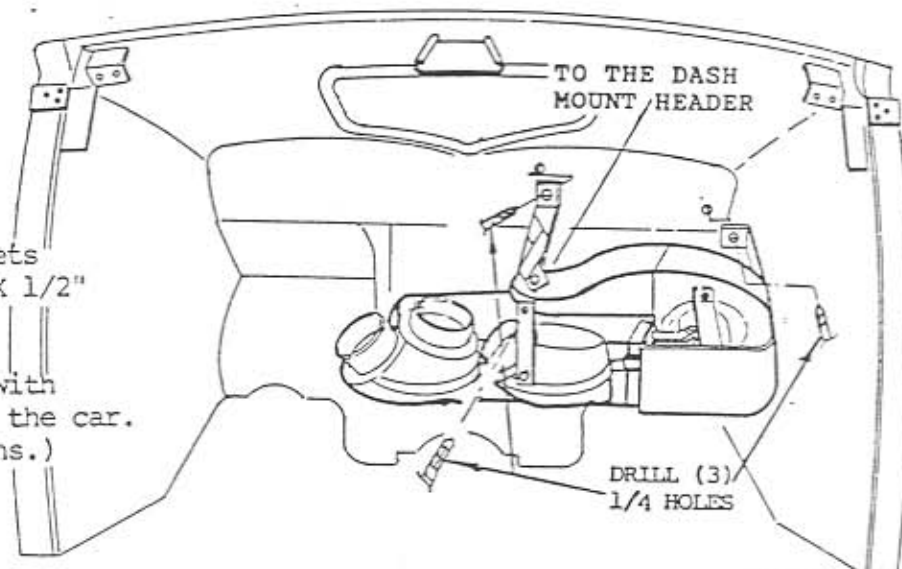

FIGURE 2
3. Brackets are furnished to mount the evaporator case using the cowl vent. (Attach to firewall as shown). Figure 2
4. The cowl vent handle will work if moved to the side. You can also convert to electric or cable operation. If you close off the cowl vent the unit will fit higher in the car. NOTE: To mount unit higher, simply determine the new location, mark and redrill the bracket to fit as described in Step 6. Figure 2
6. Have a helper hold the unit up as high as possible, with blower housing against passenger side kick panel. Locate the bracket on the top right side of the blower housing. Drill thru the 1/4" hole in the bracket to mark the firewall. Check to see if the location you marked looks ok and will clear obstructions on both sides of the firewall. If so, drill 1/4" hole in the firewall. Attach the evaporator to the firewall by the blower motor bracket with a 1/4 X 20 X 1/2" bolt and nut. Using the rear evaporator bracket as a guide mark and drill thru the 1/4" hole in the bracket. Attach this bracket to the firewall with a 1/4 X 20 X 1/2" bolt. This will locate the evaporator horizontally. Now secure the front-evaporator support strap to the unit with the 1/4 X 20 X 1/2" bolt furnished. This support bracket will attach to the dash mount header. With the unit held in place and level mark thru the 1/4" hole at the top of the bracket to the sheet metal header. Make sure that the spot marked will provide a good mounting location for this bracket. Drill mounting 1/4". Secure the mount strap to the cowl header as shown in Figure 2 with a 1/4" bolt.